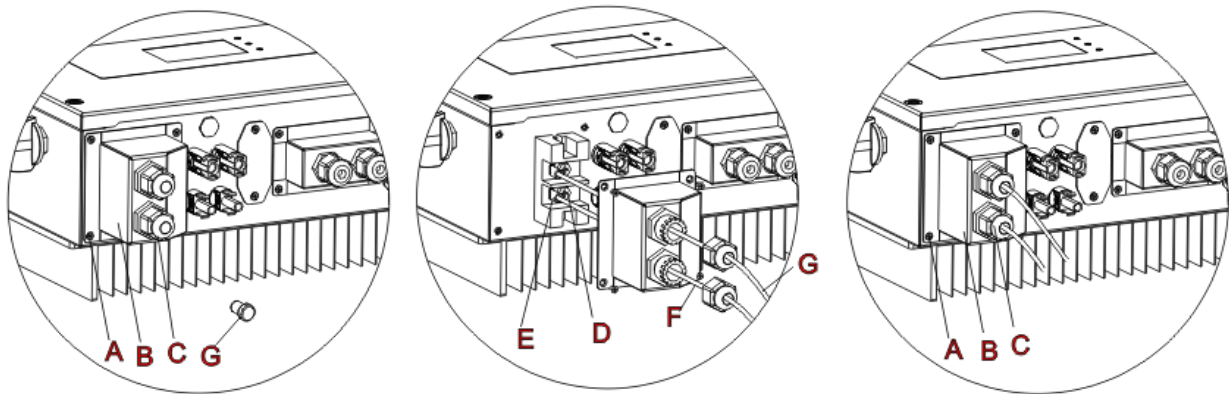

Fig. 6 Battery connection (Measure battery wires polarity/voltage before connection)
Step 1: Loosen 4 screws (A) using a screwdriver (Fig. 6);
Step 2: Remove the waterproof cover (B), loosen the cable gland (C), and then remove the stopper (G);
Step 3: Route the battery wires (F) through the cable gland, then connect battery wires using OT terminal (E);